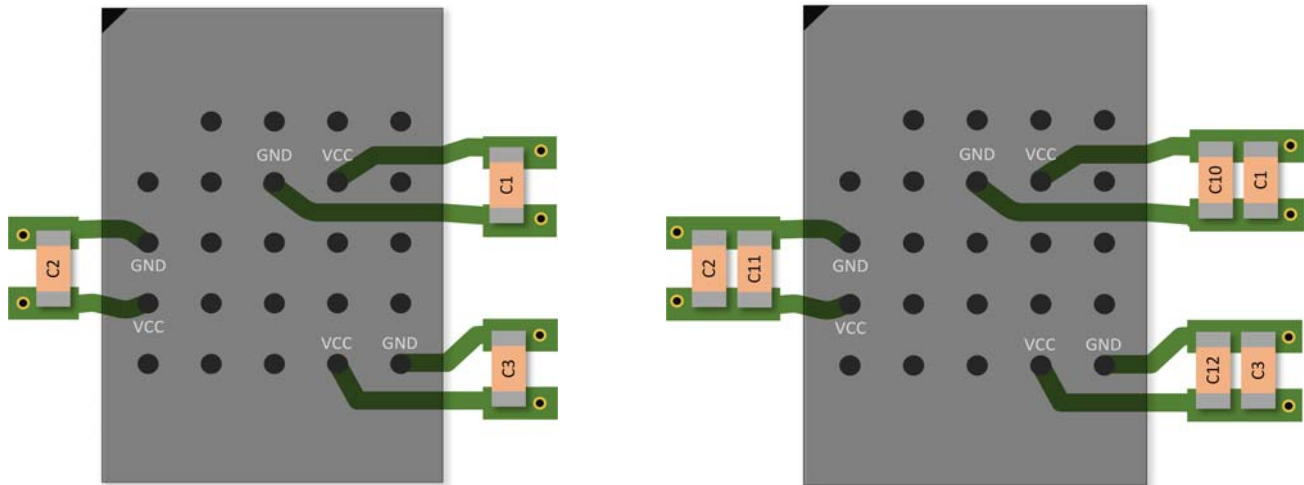

Figure 13. Placement of Decoupling Capacitors on a BGA Package — 2-Layer Board
This package pinout is comprised of 24 balls organized in a 5x4+4 grid as shown in Figure 13.
- When mounting the capacitors on the top signal layer, place a 1  $\mu$ F capacitor, or a parallel combination of a 1  $\mu$ F and 100 nF capacitors on each VCC pin, as depicted in Figure 13. In this figure, C1, C2, and C3 = 1  $\mu$ F. C11, C12, and C13 = 100 nF.